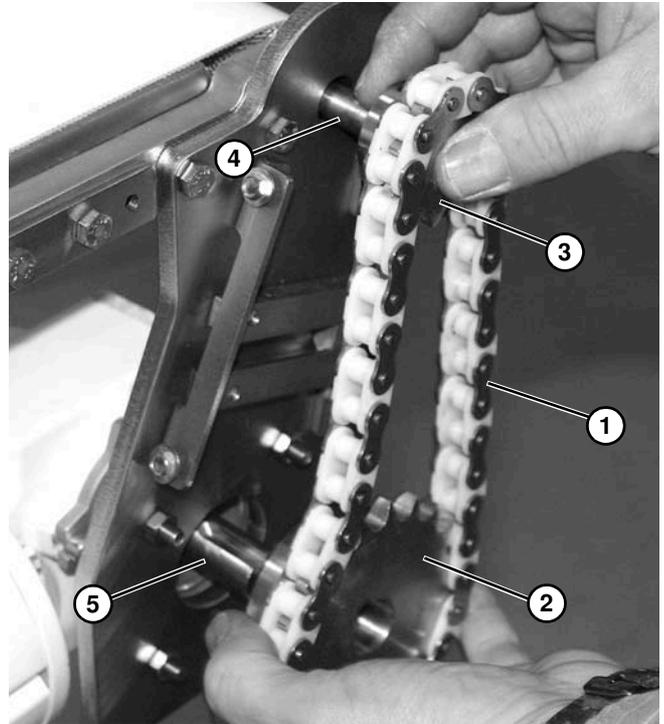

Figure 60
6. Remove timing chain (Figure 60, item 1) along with drive sprocket (Figure 60, item 2) and driven sprocket (Figure 60, item 3) from conveyor input shaft (Figure 60, item 4) and gearmotor output shaft (Figure 60, item 5). Make sure to retain sprocket keys.